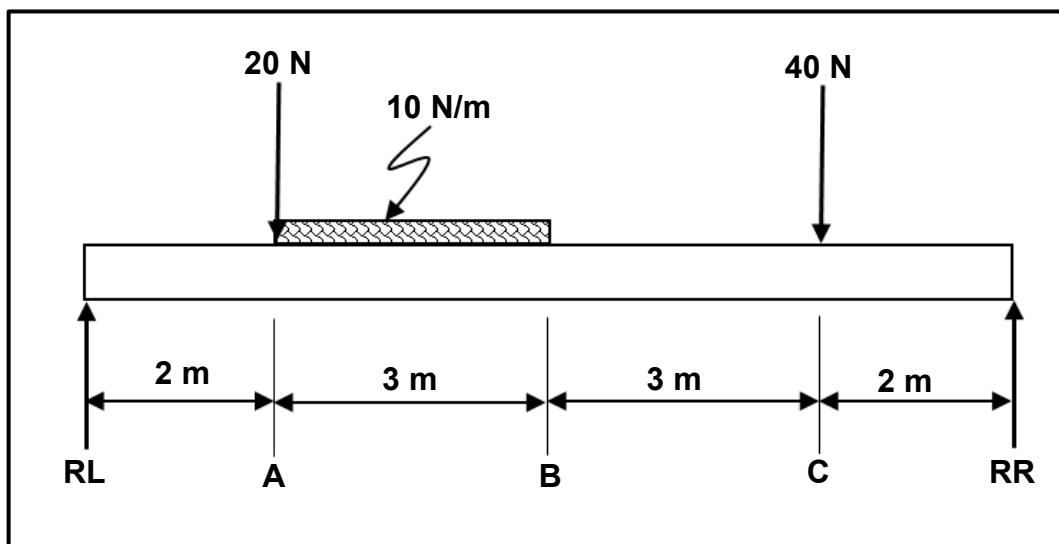

FIGURE 7.2
- 7.2 FIGURE 7.2 below shows a uniform beam that is supported by two vertical supports, **RL** and **RR**. The beam is subjected to TWO point loads and a uniformly distributed load (UDL).